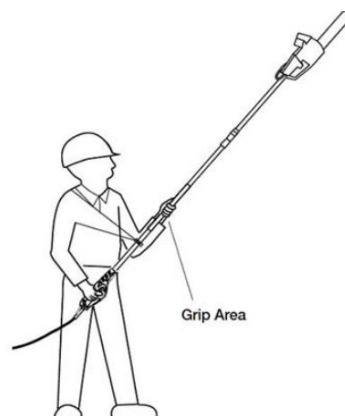

Figure 8
3. Use both hands to grip the pole saw. Use the grip areas and strap indicated when using the pole saw (see Figure 8). Use a firm grip. Thumbs and fingers should wrap around the handle and pole of the pole saw.